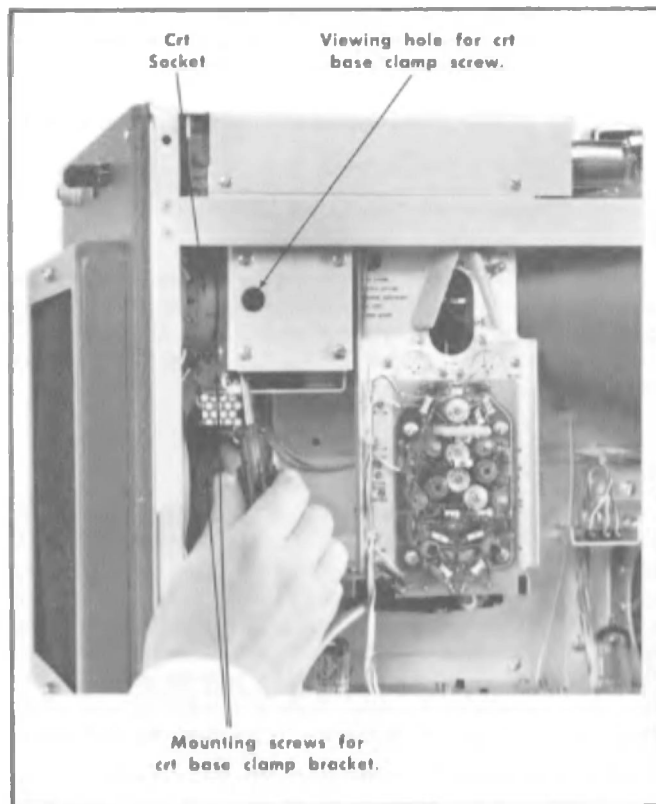

Fig. 4-3. Loosening the crt base clamp.
4. Using a Phillips screwdriver, loosen crt base clamp (see Fig. 4-3).
5. With your left hand, wiggle the crt socket (see Fig. 4-3) to ensure that the base of the crt is loose in the base clamp.
If the crt face is not parallel with the front of the oscilloscope, use a $\frac{7}{64}$ " hexagonal wrench to loosen the two mounting screws that fasten the base clamp to its mounting bracket (see Fig. 4-3). The base clamp and crt base may now be moved radially to align the face of the crt parallel with the front of the oscilloscope.